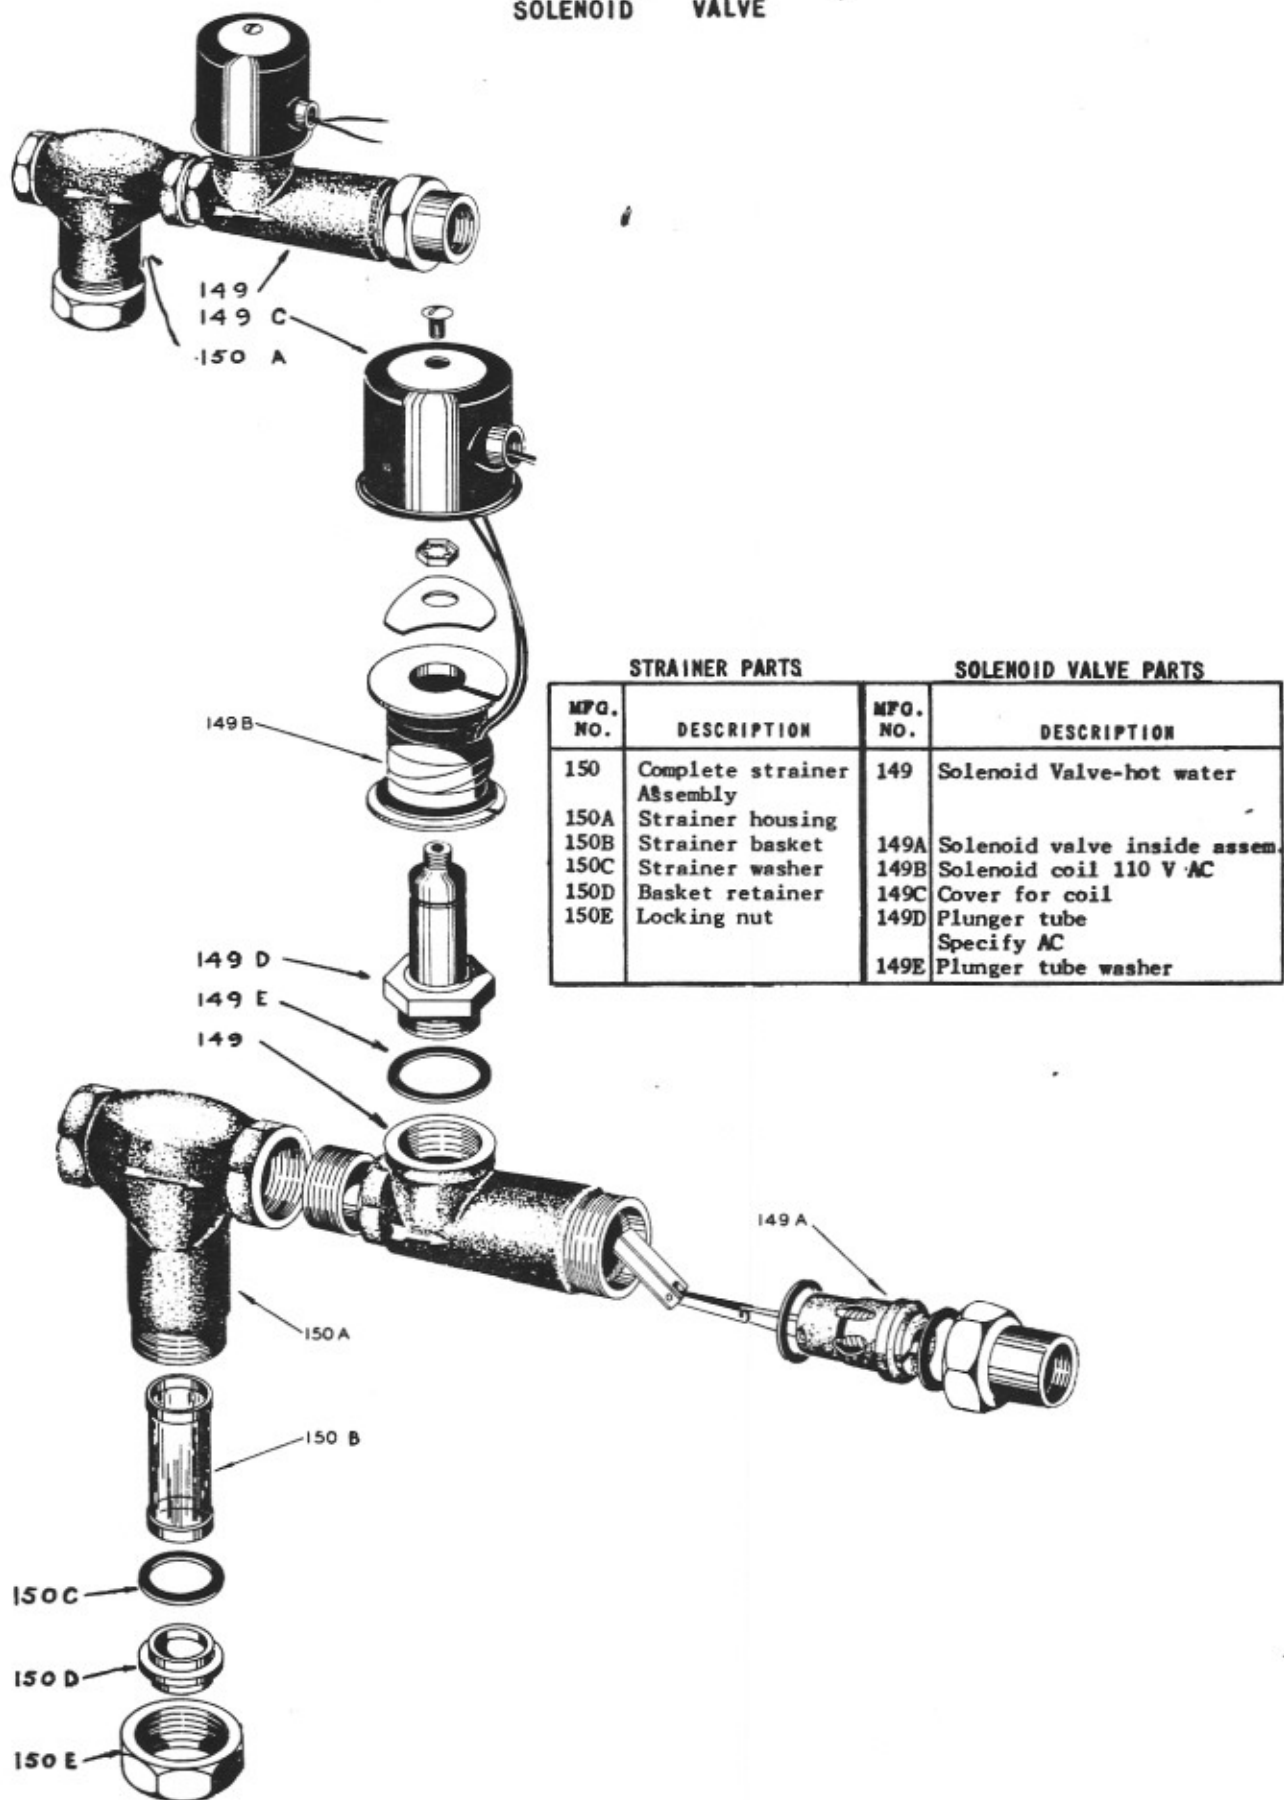

Figure 191
**BELT:** The efficiency of V belt (1) drive depends, not on the belt tension, but on the changing contour of the belt's cross section as it passes through the motor pulley. The tension is determined by the position of the motor and can be increased by sliding the motor on its base. Belt life varies depending on use. At least twelve month service should be obtained. Excessive belt wear indicates that pulleys are out of alignment or that pulleys are worn, or that leakage through the packing gland is shortening belt life. Check the cause and correct.
**SOLENOID VALVE:** Refer to Figure 191. This is a magnetic valve and includes a strainer which should be checked and cleaned monthly. Servicing of the valve is outlined below:
**TO REPAIR VALVE:** Remove entire solenoid valve assembly (Figure 191) from piping, repeat steps 1-2-3 and 5 above.